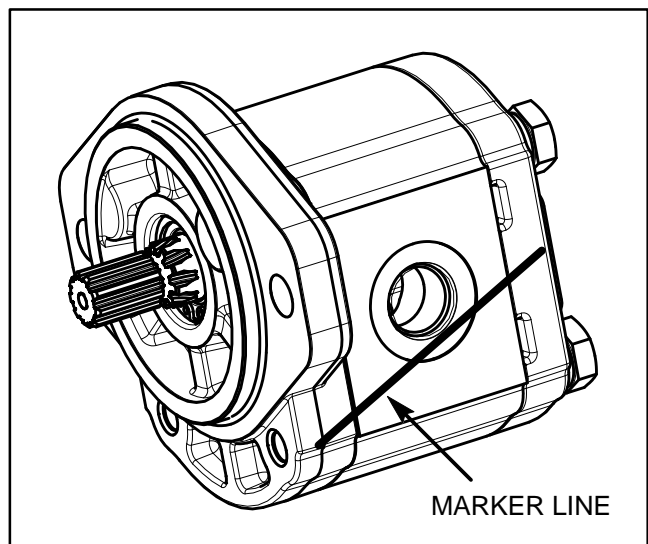

Figure 36
2. Use a marker to make diagonal line across the front cover, housing and end cover for assembly purposes (Fig. 36).